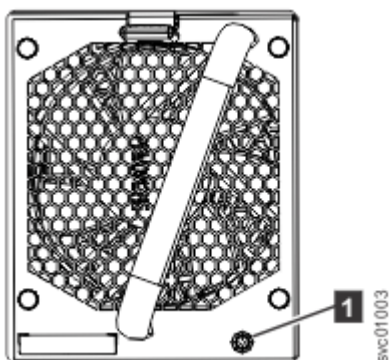

Figure 143. Fan module LED
1. Identify the fan module to be replaced. When lit, the amber LED on the front of the fan module (1 in Figure 143 on page 184) identifies a fault.